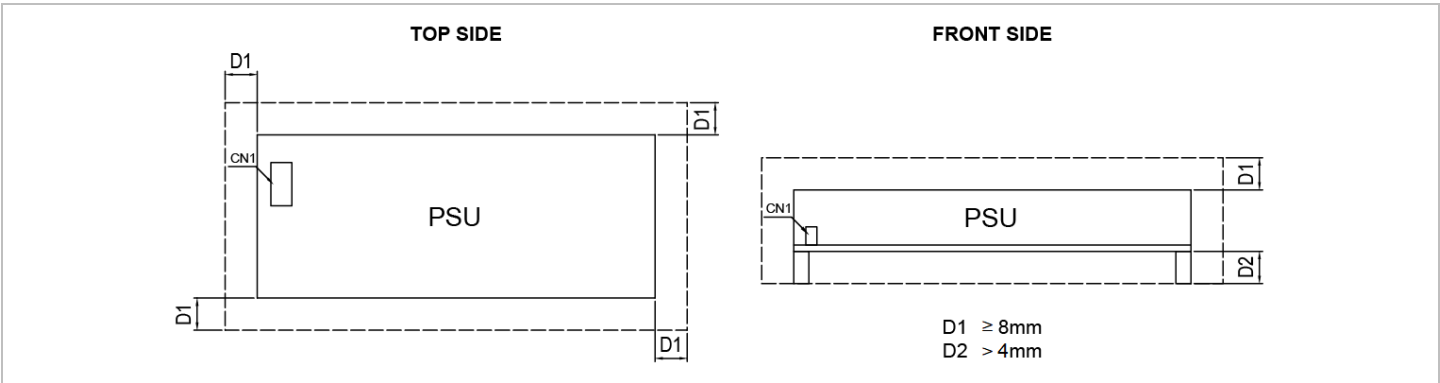

Fig. 3 Assembly Reference
- For safety reason, please ensure the mounted device is kept at $\geq 8\text{mm}$ safety distance for D1 from other components and equipment; and $\geq 4\text{mm}$ distance for D2. Please insert an insulation sheet between the system and product, if the safety distance is $< 8\text{mm}$ for D2 (Refer to Fig. 3)